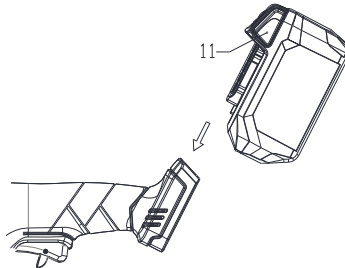

Fig. 2
**TO REMOVE BATTERY PACK:** Depress the battery release button (11), and pull battery pack out of tool. (see Fig. 2)
**TO INSTALL BATTERY PACK:** Align rails on the tool with the four tabs on the battery pack, and push battery pack onto tool until it locks in place. (see Fig. 2)